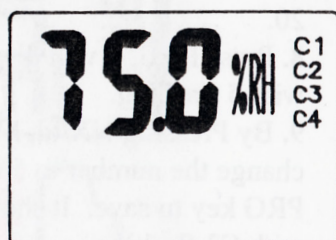

FIG23
11. Do step 8, 9 but change the number to 75. It will show Fig. 23 with C4 flashing.